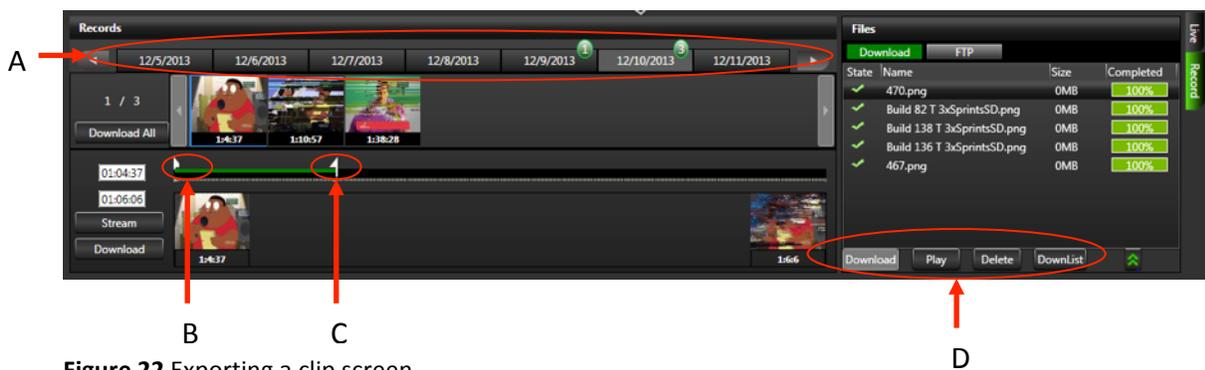
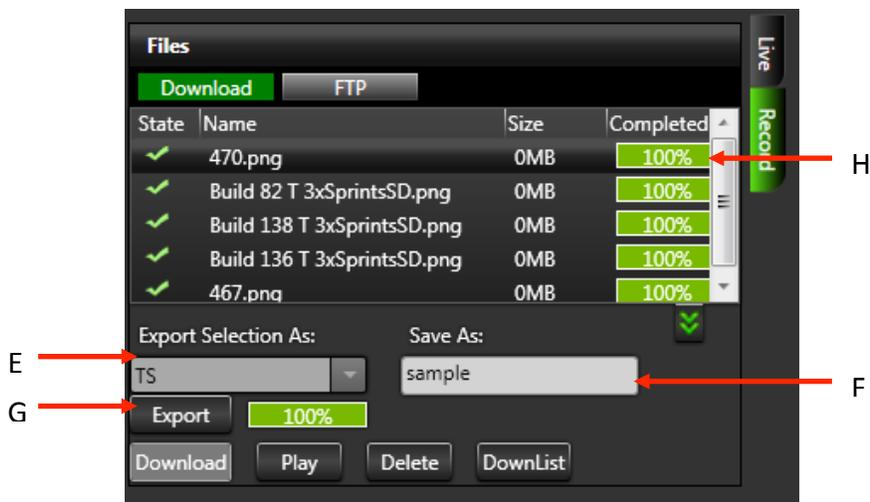

Figure 22 Exporting a clip screen
Figure 23 Exporting a clip screen
1. Navigate through stored data history by day or hour (A) (Figure 22).
2. Slide the start cursor (B) to the start of the time selected (Mark in).
3. Slide the end cursor (C) to the end of the time selected (Mark out).
6. Select the Export format (**E**) (Figure 23).